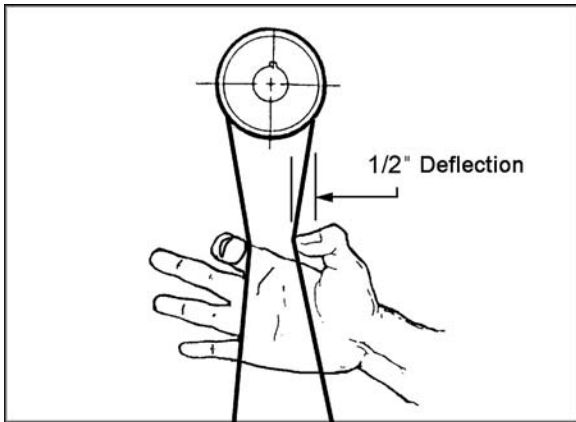

Figure 16
- The v-belt is properly tensioned when finger pressure between the two pulleys causes approximately 1/2" deflection (Figure 16).